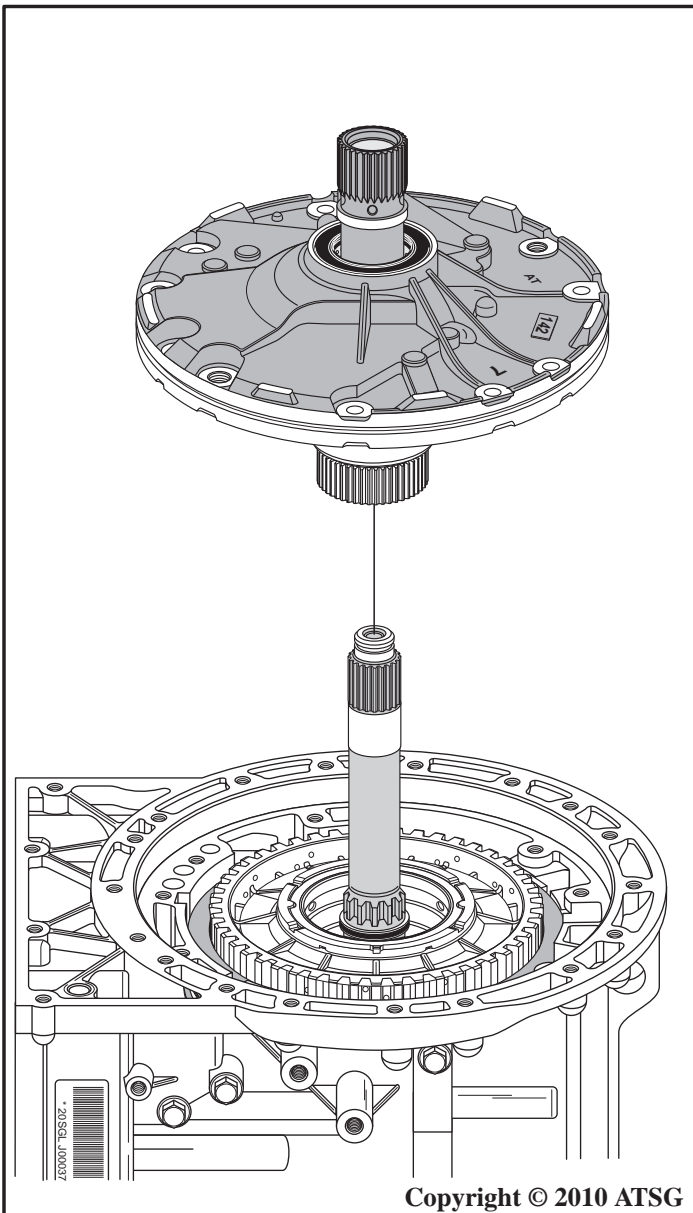

Figure 226
50. Install completed oil pump assembly, as shown in Figure 226.